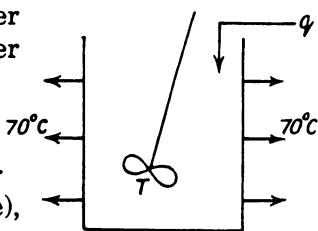

Fig. 1.13
**1.30. Problem :** For the heat transfer figure shown below, in Fig. 1.13,  $q$  (heat flow) = 100 cal. per minute, mass of water including water equivalent is 1000 gm.